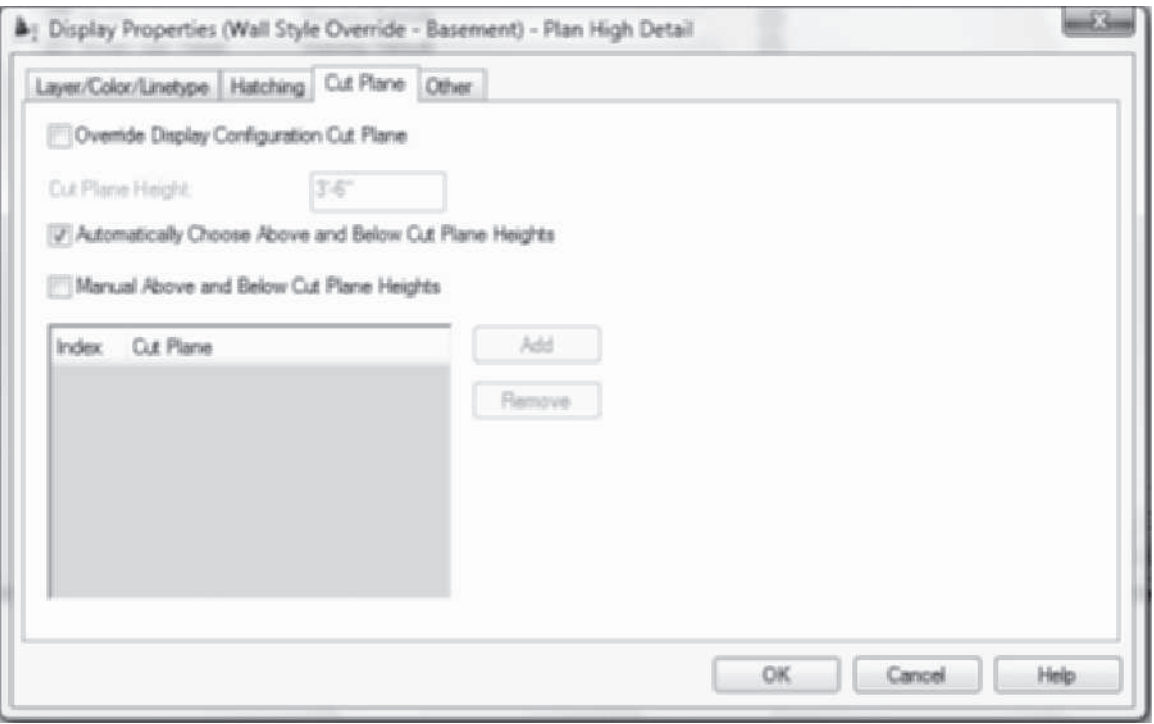

FIGURE 3.90 Cut Plane tab of Basement wall style
17. Select the Cut Plane tab and verify the dialog box as follows: clear Override Display Configuration Cut Plane, Cut Plane Height, 3'-6", ☒ Automatically Choose Above and Below Cut Plane Heights, and clear the Manual Above and Below Cut Plane Heights checkbox as shown in Figure 3.90. Click OK to dismiss all dialog boxes.